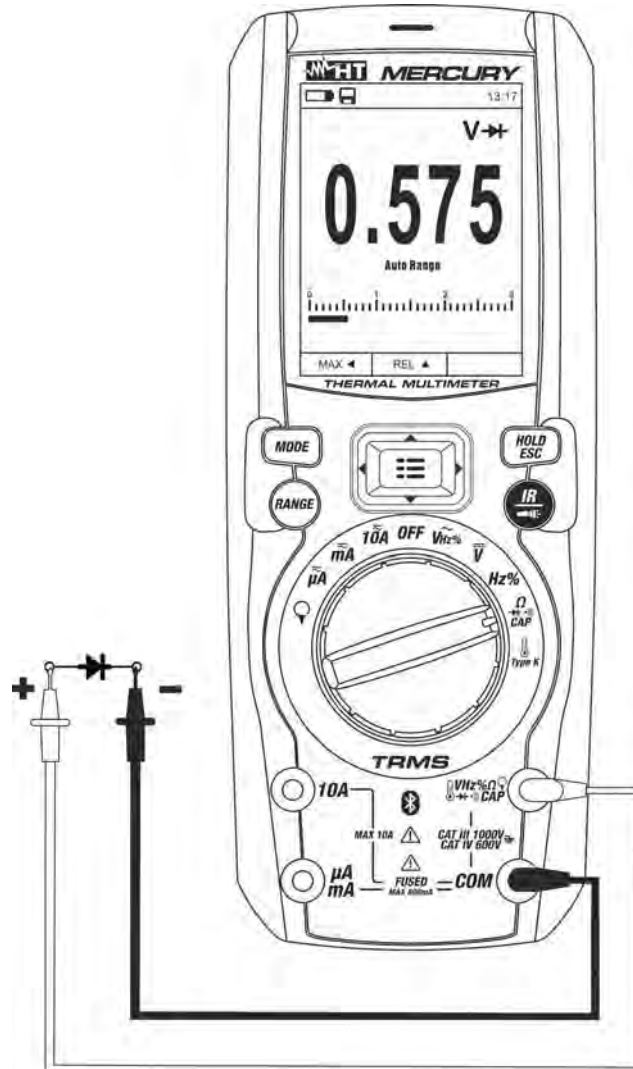

Fig. 25: Use of the instrument for diode test
4. Position the leads at the ends of the diode to be tested (see Fig. 25), respecting the indicated polarity. The value of directly polarized threshold voltage is shown on the display.
6. If the display shows message "OL", the terminals of the diode are reversed with respect to the indication given in Fig. 25 or the P-N junction of the diode is damaged.